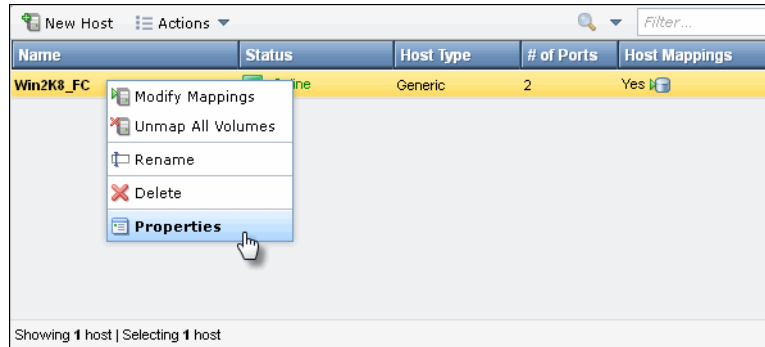

Figure 5-31 Host properties
1. Right-click your Windows 2008 Fibre Channel host in the All Hosts view (as shown in Figure 5-31) and select **Properties**.